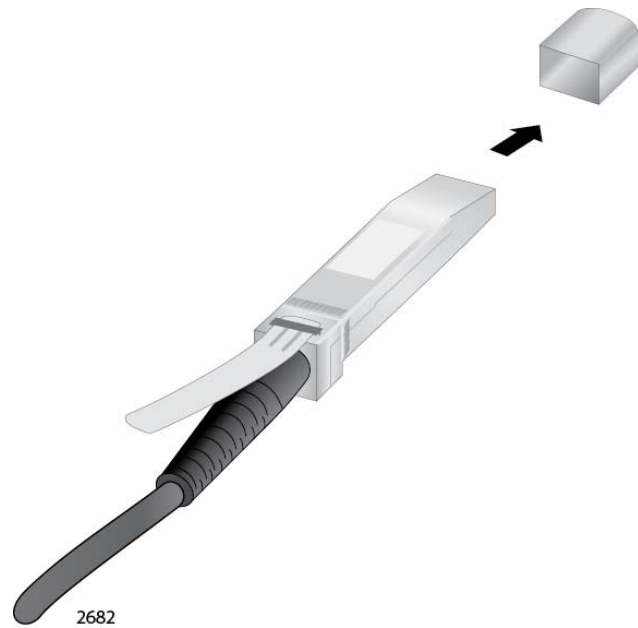

Figure 30. Removing the Dust Cover from the AT-StackXS/1.0 Transceiver
3. Remove the dust cap from one end of the transceiver, as shown in Figure 30 on page 71.